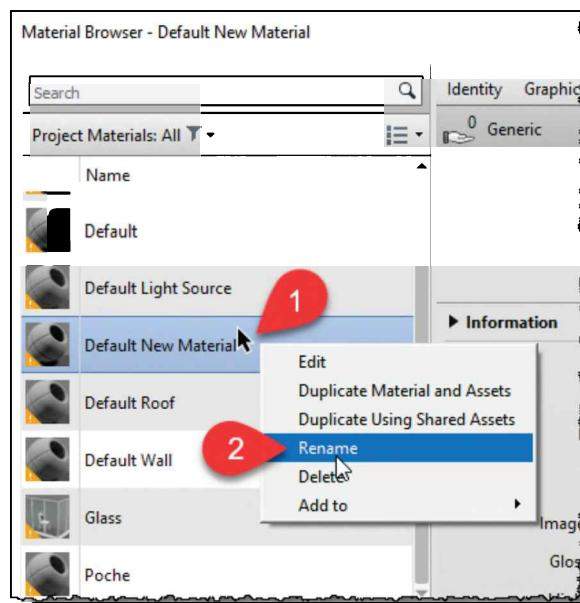

FIGURE 17-4.8 Naming new material
18. Right-click the new *Material* and **Rename** it to **Box Material**; see Figure 17-4.8.